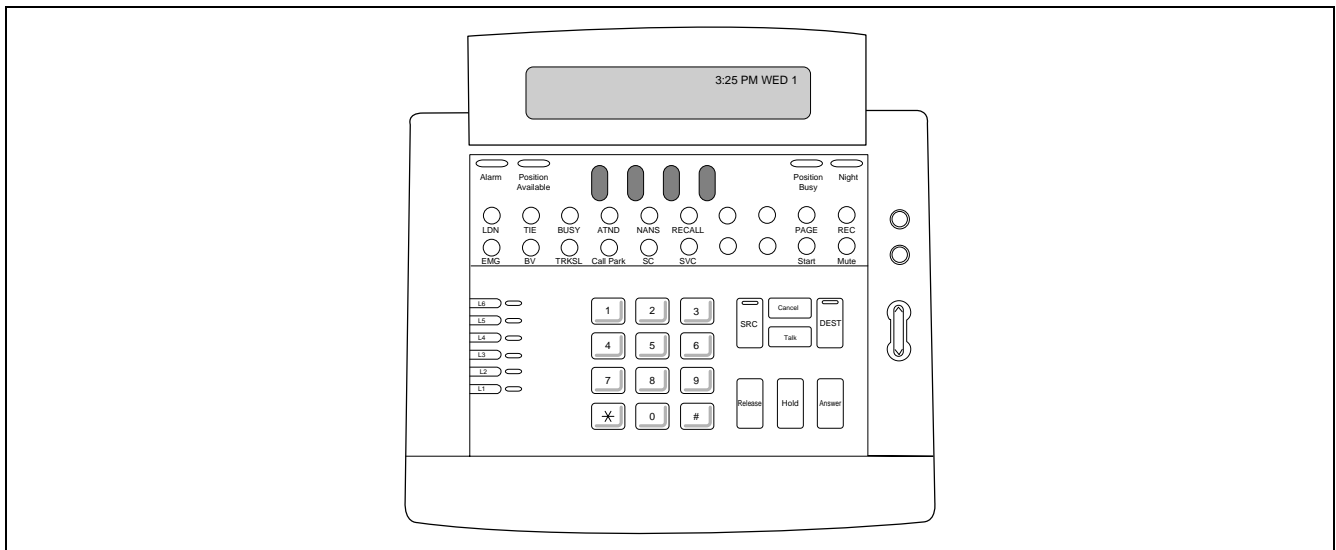

Figure 7-3 Desk Console
- Operator presses the # key and confirms that all the lamps on the same transverse line between the EMG and Mute lamps light green. Refer to Figure 7-3.